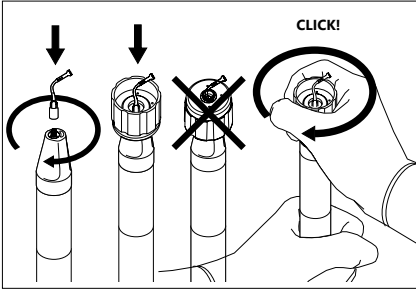

Fig. 2
Refer to Fig. 2
**⚠ CAUTION:** Do not grip the handpiece by the end and/or cord, but only by the body (Fig. 2 - C). Do not rotate the body while securing the insert. Firmly grip the body of the handpiece and turn the torque wrench only.